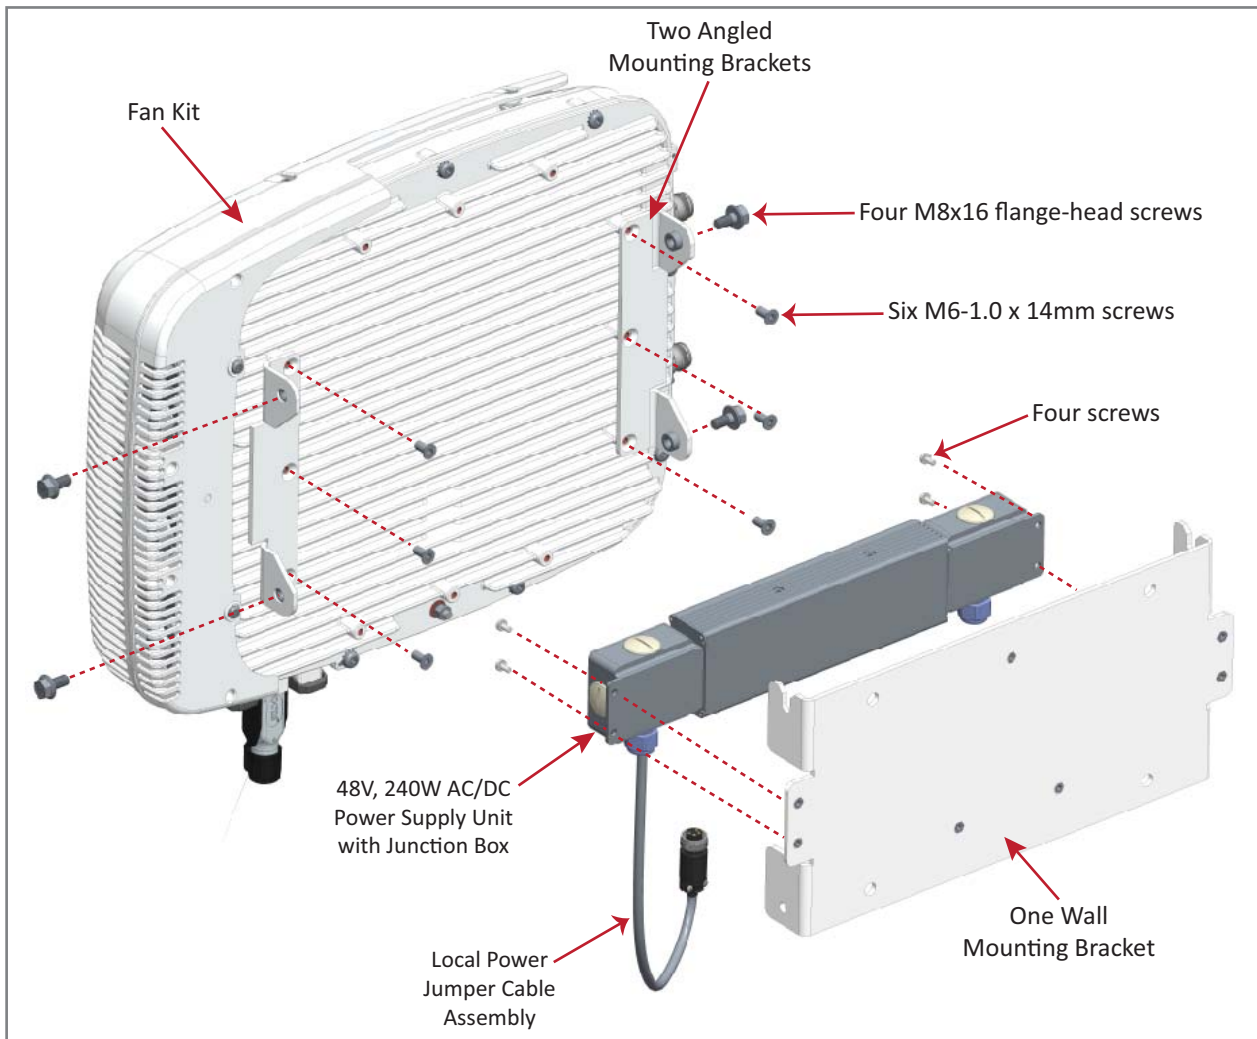

Figure 7-12. CAP L with Fan Kit and with 240W AC/DC Power Supply Kit
- CAP L with Fan Kit—Figure 7-12 on page 108.